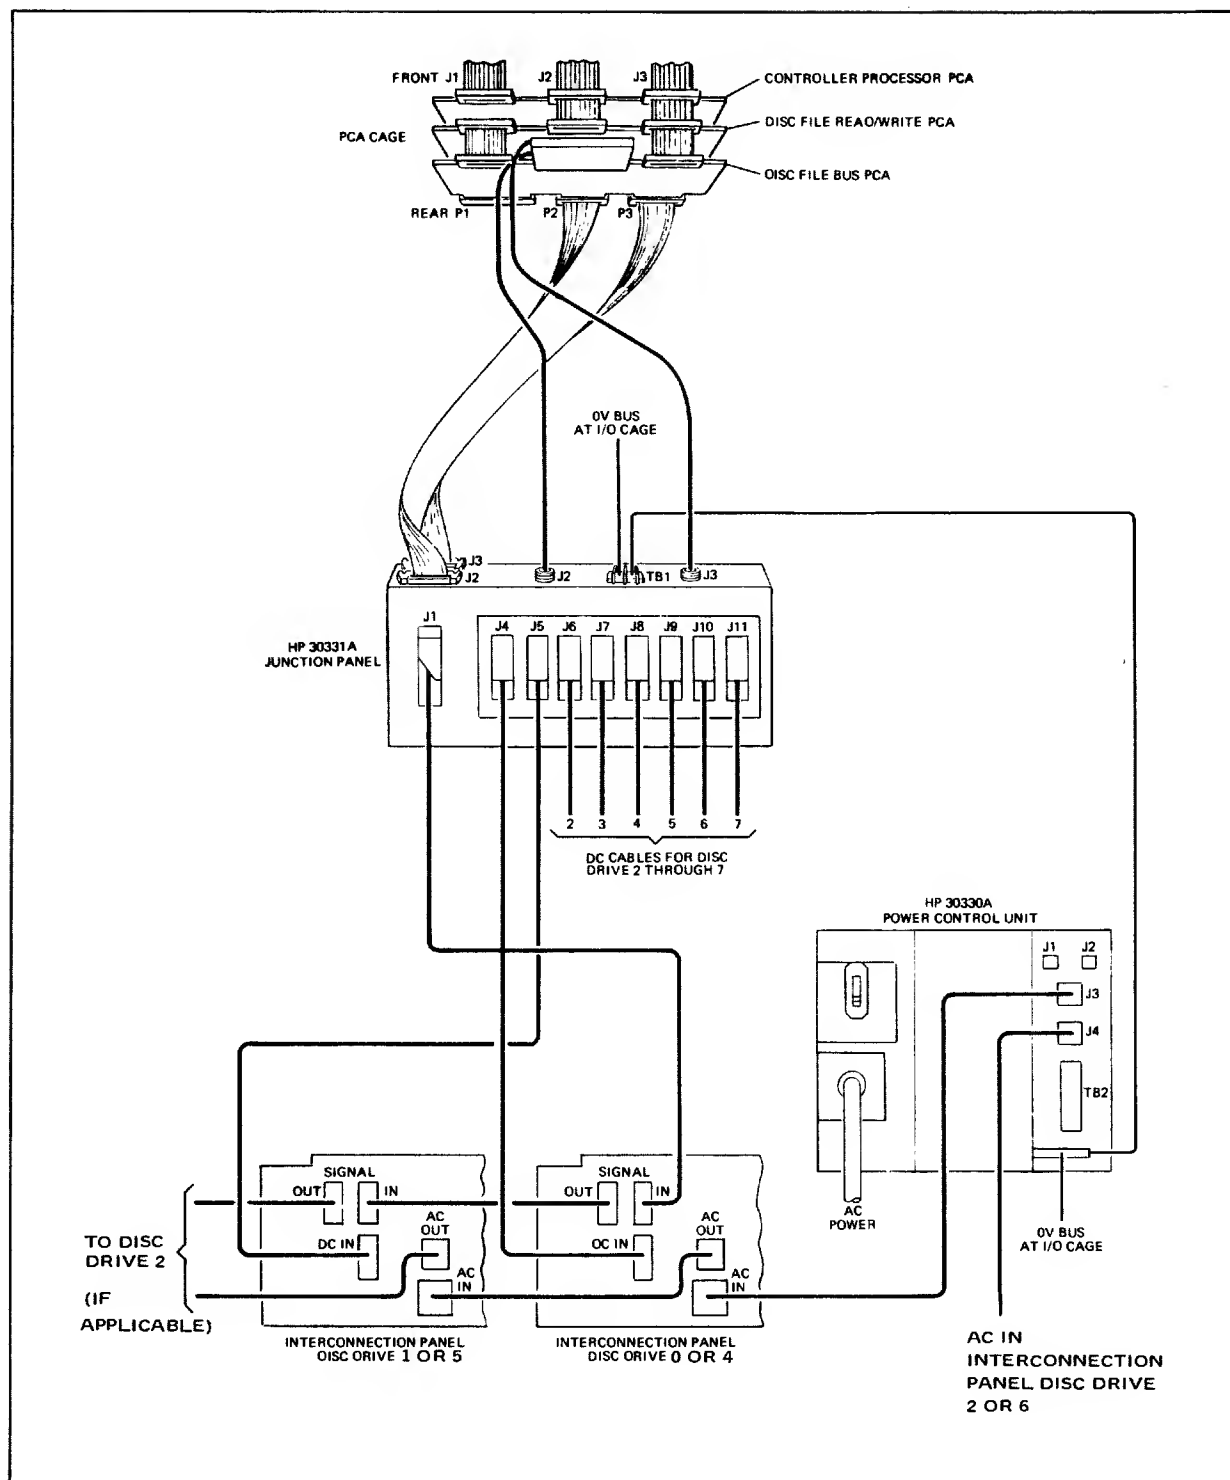
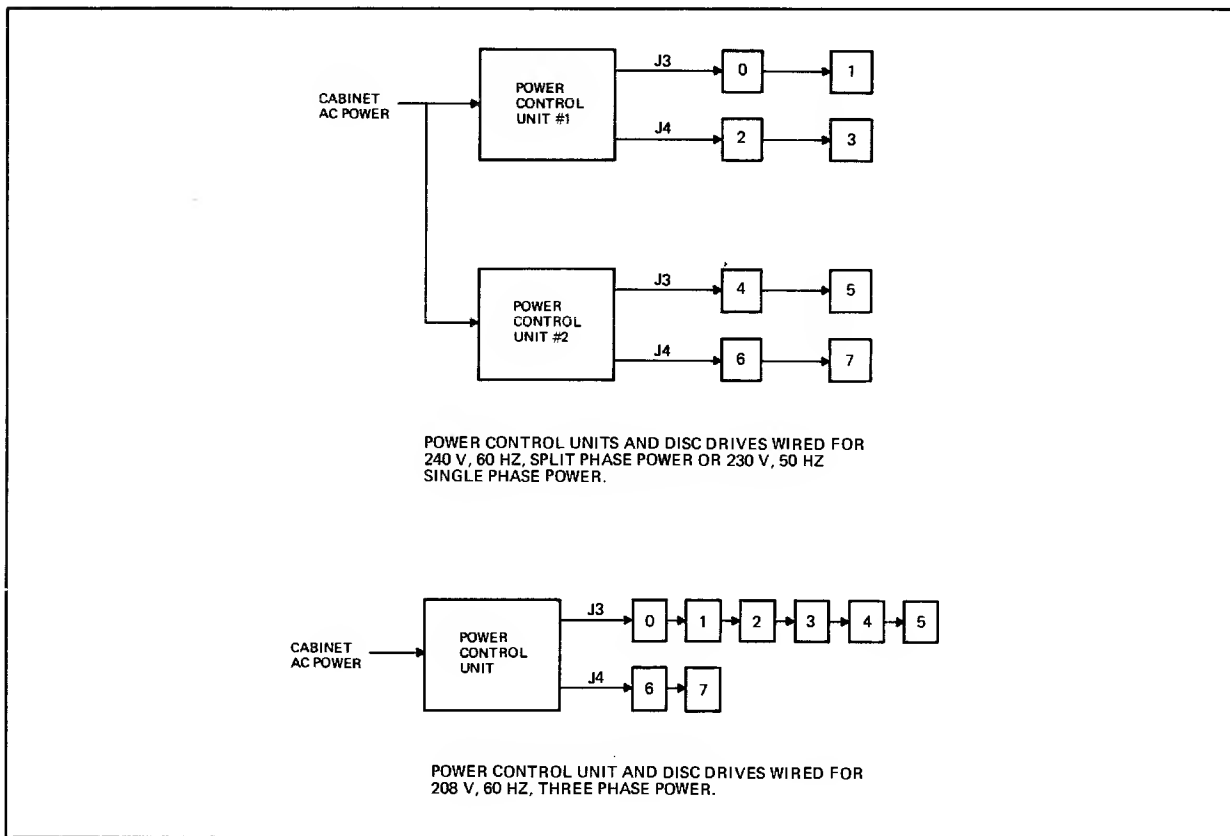
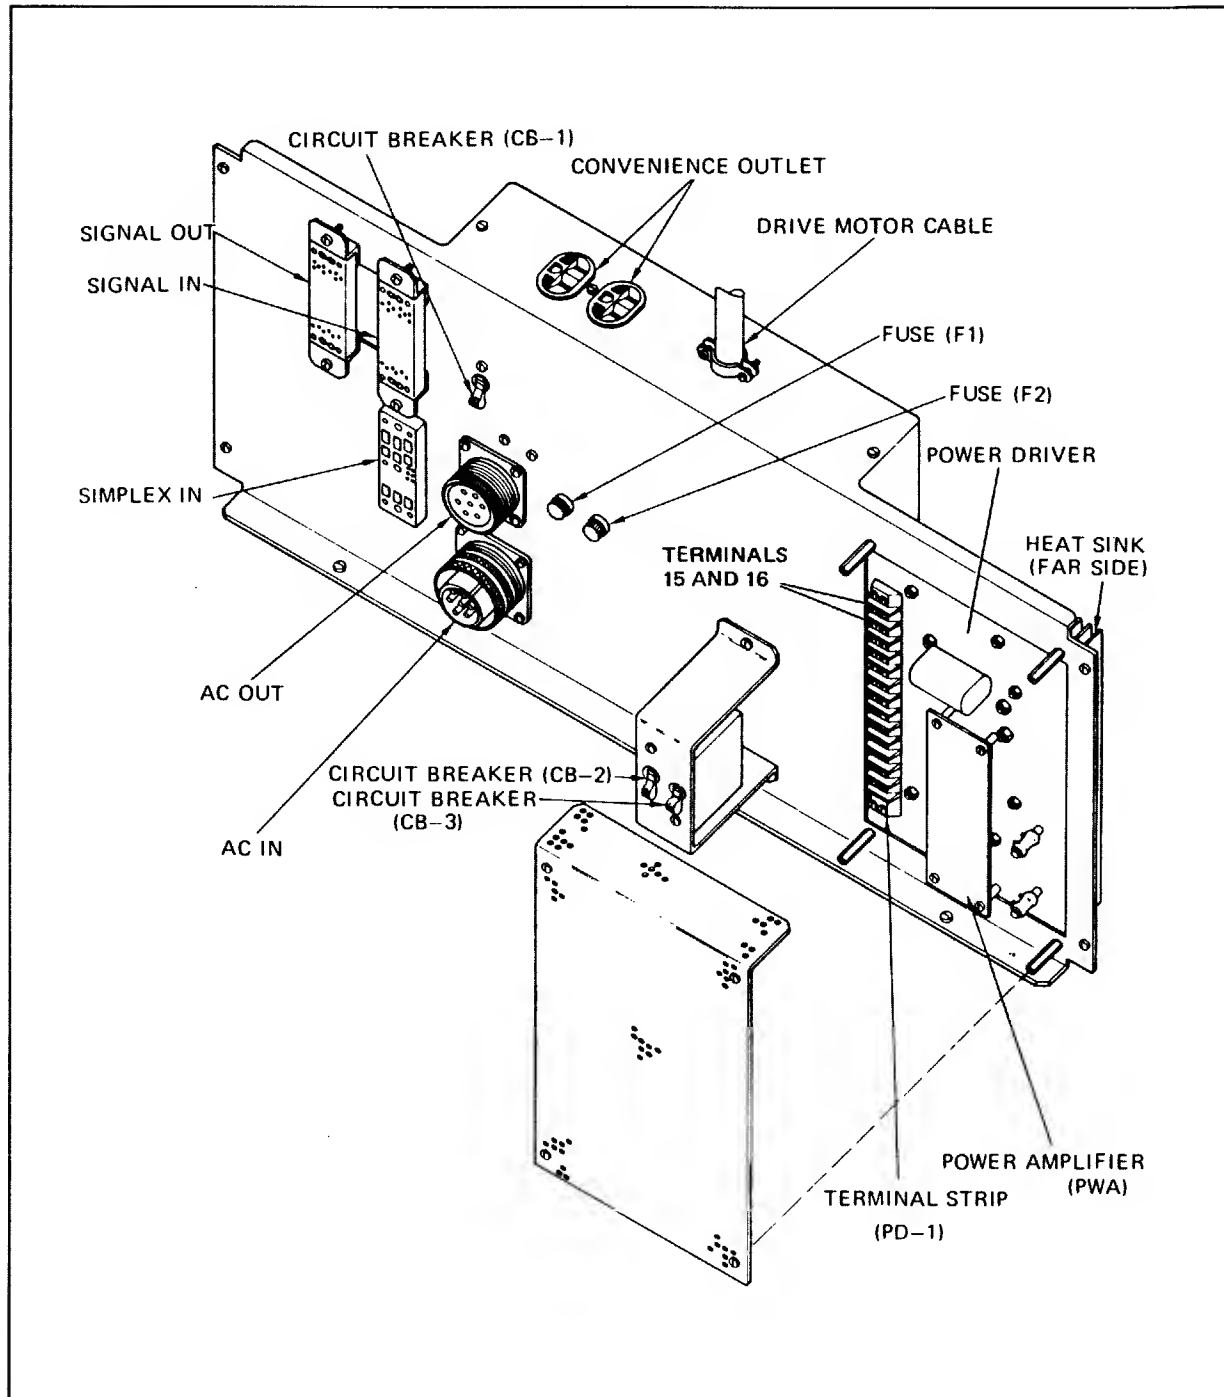

Figure 3-13. HP 30102A Disc File Subsystem Cabling
Figure 3-14. HP 2888A Disc File Power Configurations
Figure 3-19. HP 2888A Sequence Panel and Power Driver
delivered. Each PCU has two AC power output terminals (labeled J3 and J4) to which the disc drives are connected. Figure 3-13 shows how the disc drives are daisy-chain connected to the PCU; figure 3-14 shows a maximum configuration for both power options.
After the bays are fastened together, the various cables must be uncoiled and connected to the appropriate equipment. The necessary cable connections are described below under Drive Cabling (see paragraph 3-19) and are shown in figures 3-13 and 3-14.
**3-19. DRIVE CABLING.** Input to each drive is by three cables: the AC power cable, the DC cable, and the signal cable. The disc drives are daisy chain connected to the AC power cable string as shown in figure 3-13. (J3 of PCU to AC IN of first drive, AC OUT of first drive to AC IN of second drive, etc.). A separate DC cable is connected between the junction panel and each individual disc drive, as shown in figure 3-13. The disc drives are daisy chain connected to the signal cable string as shown in figure 3-13 (J1 of junction panel to SIGNAL IN of first disc drive, SIGNAL OUT of first disc drive to SIGNAL IN of second disc drive, etc.). The last disc drive in the series must have signal terminator connected to its signal out receptacle (figure 3-19).